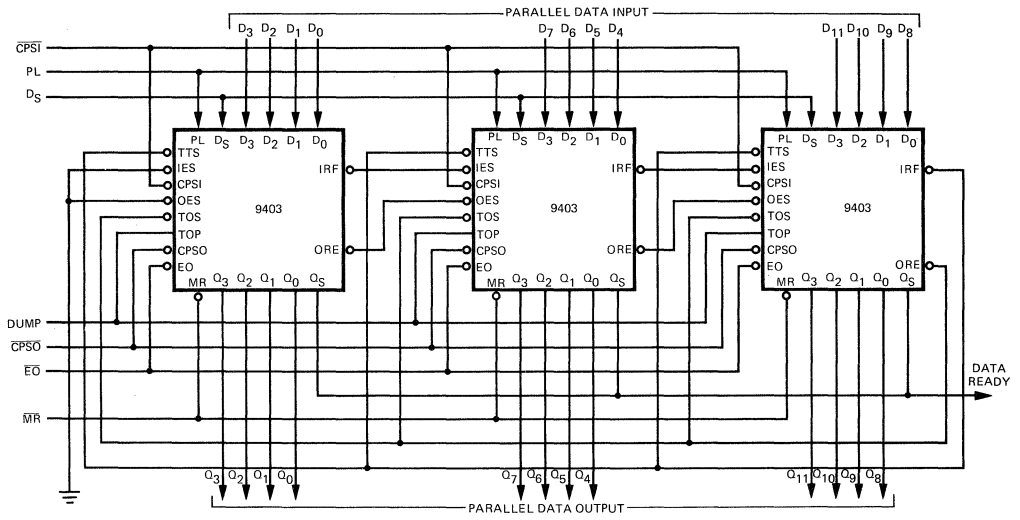

Fig. 5
**Horizontal Expansion** – The 9403 may also be horizontally expanded to store long words (in multiples of four bits) without external logic. The interconnections necessary to form a 16-word by 12-bit FIFO are shown in Figure 5. Using the same technique, any FIFO of 16 words by  $4 \times n$  bits can be constructed. When expanding in the horizontal direction, it is usual to connect the  $\overline{IRF}$  and  $\overline{ORE}$  outputs of the right most device (most significant device) to the TTS and TOS inputs respectively of all devices to the left (less significant devices) to guarantee that no operation is initiated before all devices are ready.